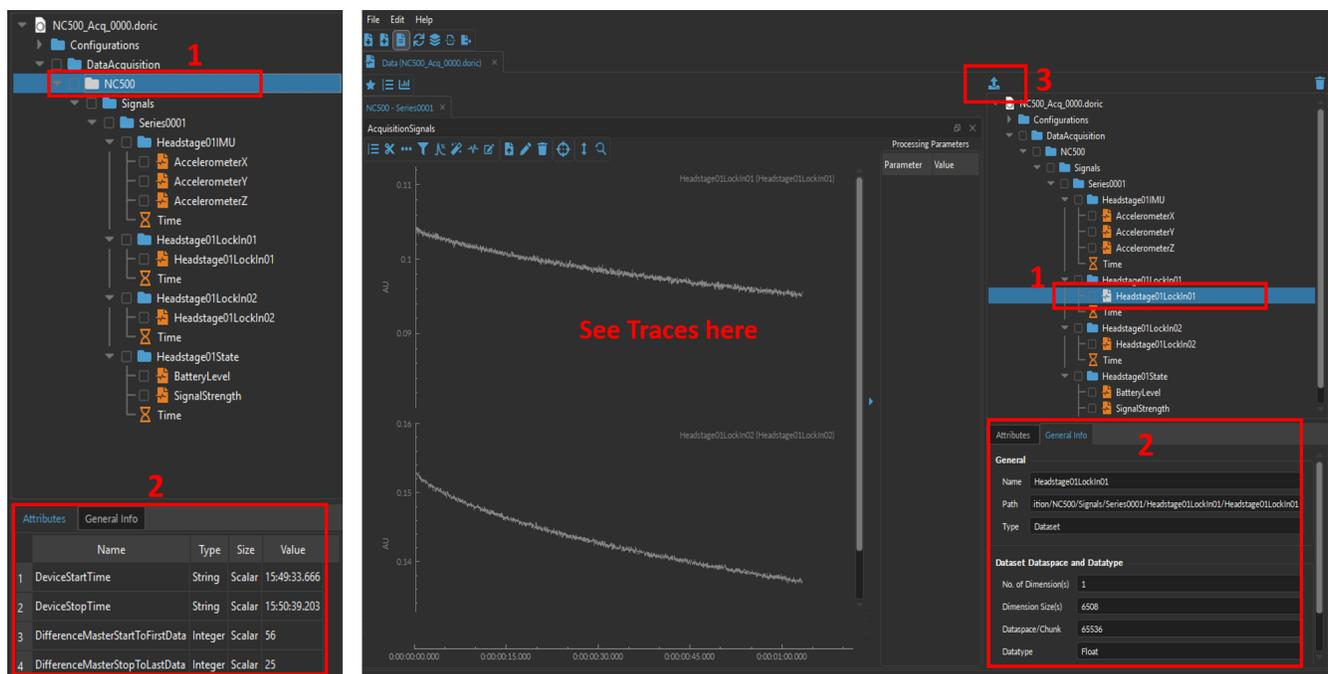

Figure 2.13: Load Data in *danse*TM
- Select the **NC500** node, then click on the **Attributes** tab to view recording details such as start and stop times (Figure 2.13, left: 1, 2).
- Selecting any of the lock-in amplifier signals (e.g., Iso, Green) and navigating to the **General Info** tab will display additional information such as data dimensions and related parameters (Figure 2.13, right: 1, 2).
- Click **Load** to display the signal in the main viewer (Figure 2.13, right: 1, 3).